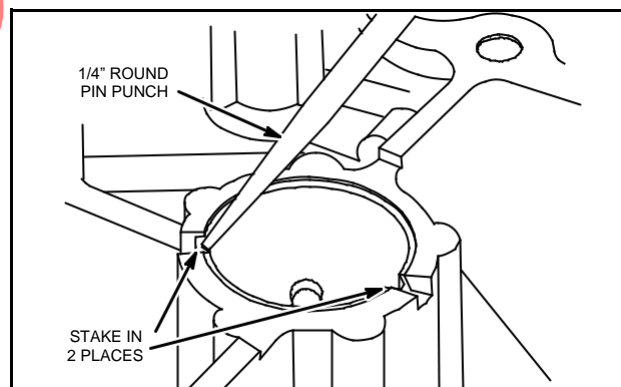

Fig. 16 – Staking Bearing
4. To prevent bearing from turning stake bushing as shown in Fig. 16.